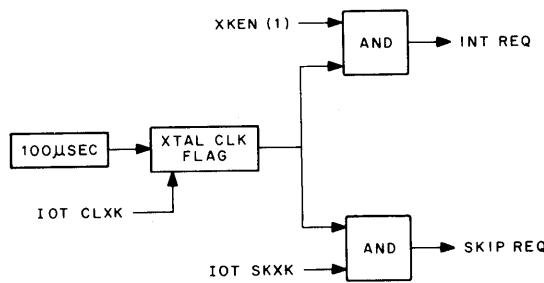

Figure 3-3 Crystal Clock Logic
The crystal clock serves as a timer and provides a pulse every 100  $\mu$ s to set the XTAL CLK flag (flip-flop) (Figure 3-3). The state of the crystal clock flag is used by the IOT SKXK (skip on crystal clock flag) to cause a skip request if the flag is set. IOT SKXK is caused by BMB bit 9(0) and the combination of IO2 decoded in the decoder (MB 6, 7, 8 as 010) and the IOP 1 pulse from the computer. To cause an interrupt request, the 1 state of the flag is ANDed with XKEN(1) from the Enable Register. XKEN is set by IOT OTEN (AC bit 3 (1)).